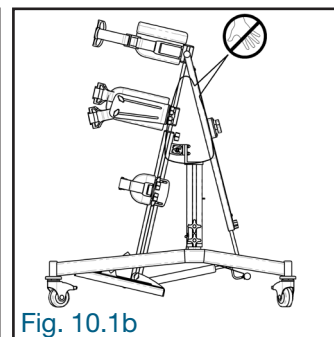

Fig. 10.1b
- When adjusting the height of the product by loosening the two locking knobs (A) at the back of the frame and the two locking knobs (B) at the bottom of the stabilizer platform, DO NOT place fingers and hands between the hip block (C) and the stabilizer (D) as well as inside the triangular part (Fig. 10.1b).